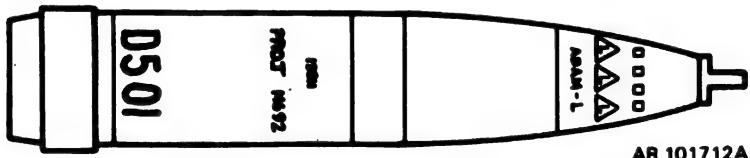

Figure 211.13. M692 projectile.
(12) *Projectile, 155-mm, high explosive M692 (fig. 211.13).* This projectile is known as the Area Denial Artillery Munition. It is painted olive drab with yellow markings. The most significant marking is the row of yellow triangles between the nose and the bourrelet and contains the letter "L" that indicates a long self-destruct time for submunitions. These submunitions are antipersonnel mines to deny the enemy free use of certain areas for a period of time. This is a base-ejection type projectile, and uses the M577 time fuze.